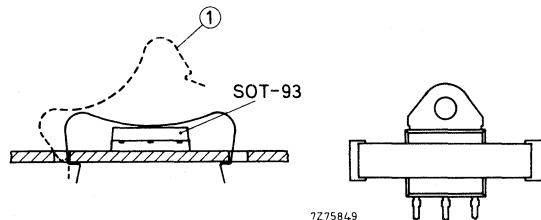

Fig. 1b Mounting.
2. Push the short end of the clip into the narrow slot in the heatsink with the clip at an angle of  $10^{\circ}$  to  $20^{\circ}$  to the vertical (see Fig. 1b).